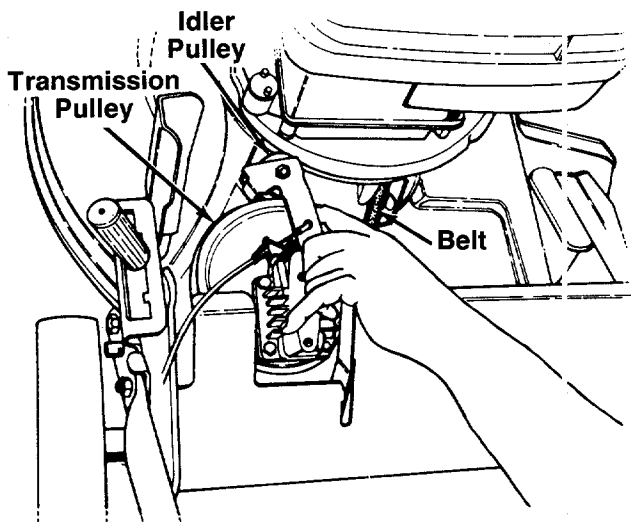

FIGURE 29.
10. Push the idler to the left and remove the belt from the transmission pulley. See figure 29.